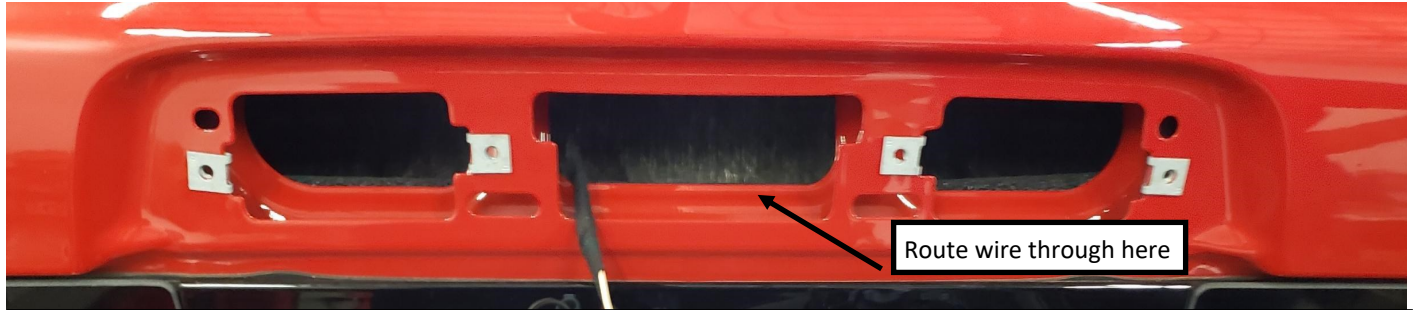

Figure 4—Wire routing.
8. Feed the wire through the hole behind the 3rd brake light and route it through the cab to a suitable switch mounting location. (**Figure 4**)